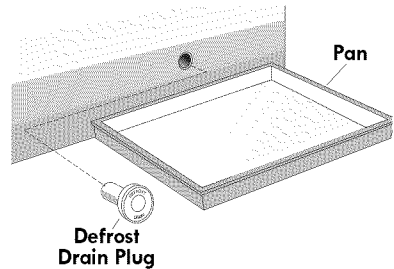
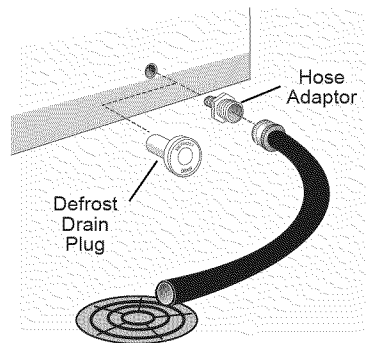

Figure 2
Figure 3
- Place a shallow pan beneath the drain outlet. Pull out the outside drain plug (see figure 2). A $\frac{1}{2}$ inch garden hose adaptor can be used to drain the freezer directly into a floor drain (see figure 3). If your model is not equipped with an adaptor, one can be purchased at most hardware stores.